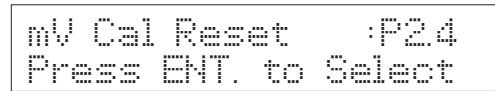

Figure 125
2. Use  $\Delta/MI$  key to scroll to program *mV Cal Reset: P2.4*. See **Figure 125**.